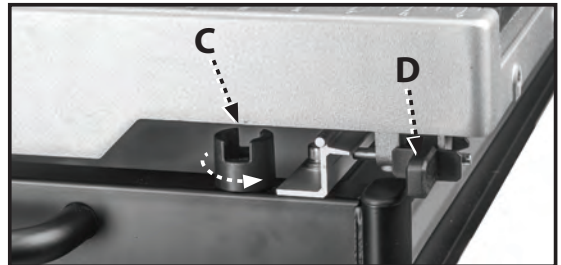

FIGURE 9
4. Pull up on the table stop (C, Fig. 9) and rotate it 90 degrees until it clicks into place. This will prevent the table from sliding backward, off the main frame.
5. To lock table in place, so it will not move, engage table lock (D, Fig. 9) into rail at location shown.